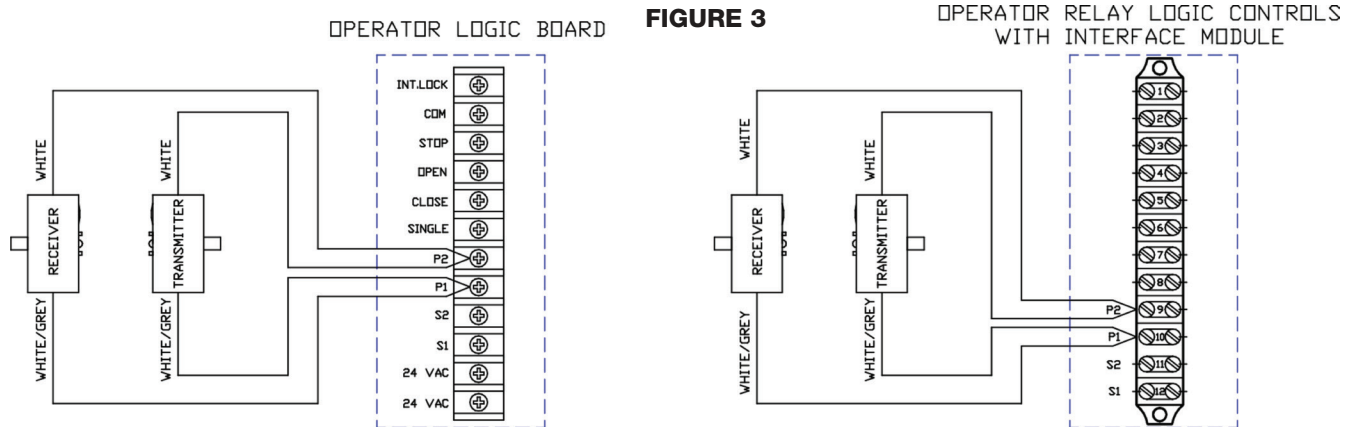

FIGURE 3
- Connect these paired wires to the P1 and P2 terminals on the logic board (or interface module if applicable) as shown in Figure 3.